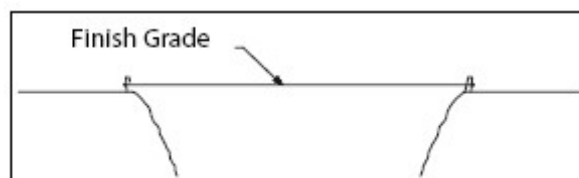

Figure 1
Remove spill container cover and fill cap from fill adaptor and look down into the tube and make sure no debris or foreign objects are present. If debris or foreign objects are present take appropriate steps before proceeding. Look down into the tube and ensure poppet is completely protected by the deflection shield. See Test Figure 1. If poppet is exposed and tank is not full the overfill valve should be replaced. A flashlight may help when inspecting the tube.
Unthread the socket adaptor assembly from the inlet tube using a 1/4" square drive extension and wrench. The extension will attach to the socket adaptor. Secure all tools to ensure they don't fall into the tank or valve. With the extension still attached pull on the socket adaptor and cable assembly and ensure float and poppet move / function properly. It should only require 3" to 4" of movement and less than 5 lbs of force in order to actuate the float and poppet. When looking down into the upper tube ensure poppet is visible and moves into the flow path (see Test Figure 1 & 2) when socket adaptor is pulled and resets properly when socket adaptor is released. If poppet does not actuate freely take appropriate steps to correct.
Test Figure 1
1. Mark off finish grade. (See Figure 1).